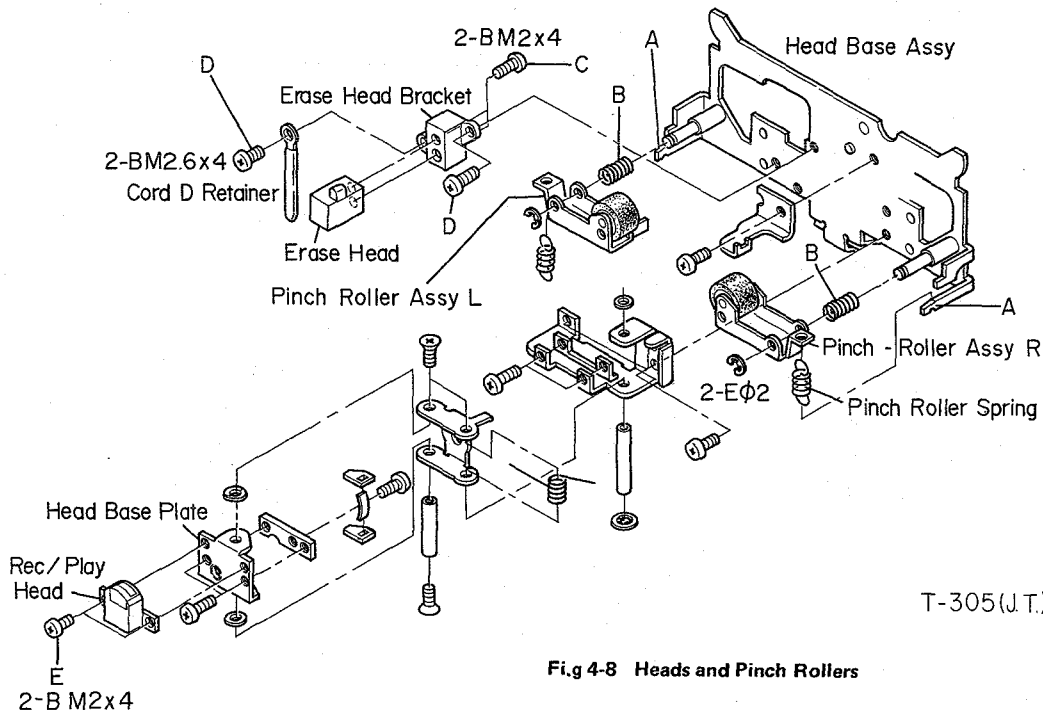

Fig 4-8 Heads and Pinch Rollers
**NOTE:** Although Fig. 4-8 gives a full parts breakdown, the following explanation is confined to the direct removal of the Heads and Pinch Rollers.